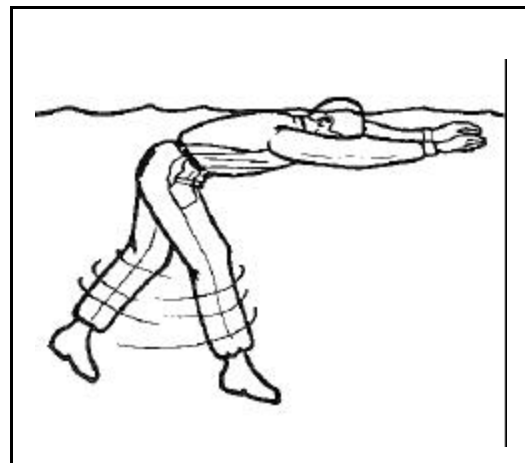

Figure 10-5. Preparing to Exhale
- **Step 2--Preparing to Exhale.** When ready for another breath (in about 6 to 10 seconds), maintaining the body and head position as shown in Figure 10-5, the swimmer slowly lifts the arms to about shoulder height. The legs slowly separate into a scissors-type kick.